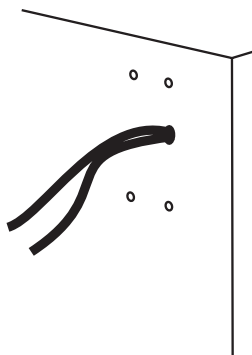

Figure 1
- 2 Place the base against the wall, mark the location of the four mounting holes, remove the bracket and drill the mounting holes. Pull all wiring through the wall at this time (Figure 1).